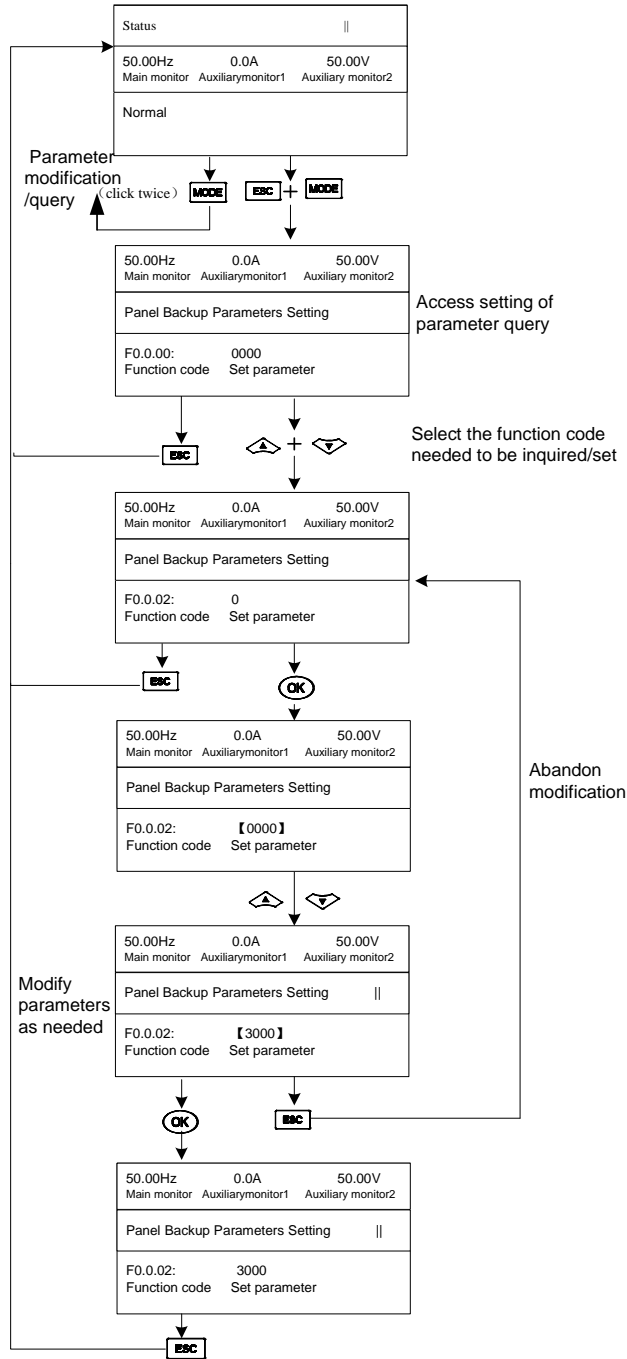

Figure 5-3 Panel backup Parameters check and modification
1. Connect as per Figure 5-3;
4. Press  key to start frequency inverter. If the name plate parameters (F2.0.00 ~ F2.0.04) of the motor are modified in ③, the primary static parameter identification will be started automatically, the frequency inverter will output 0 frequency and the auxiliary display column will display the current output current (not limited by F0.0.13 at this time). When the display current is stable as 0.0, the automatic learning is finished and operation is started;